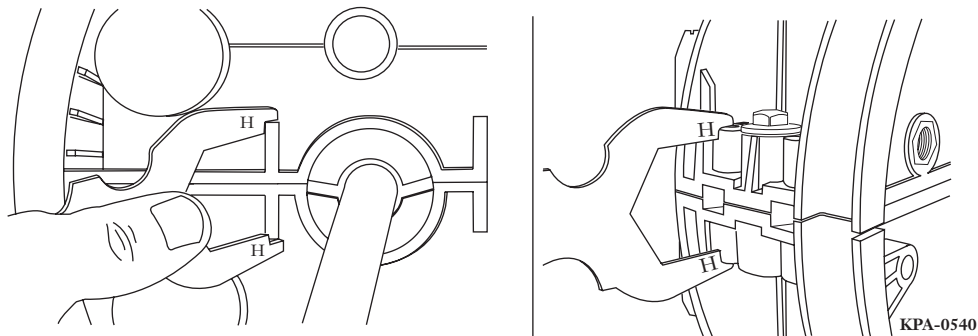

Figure 19 — Tighten End Cap
- Step 5** Tighten the bolts until the end cap closing gauge tool (Section H) fits over the sides and center measuring points of the end cap (Figure 19).